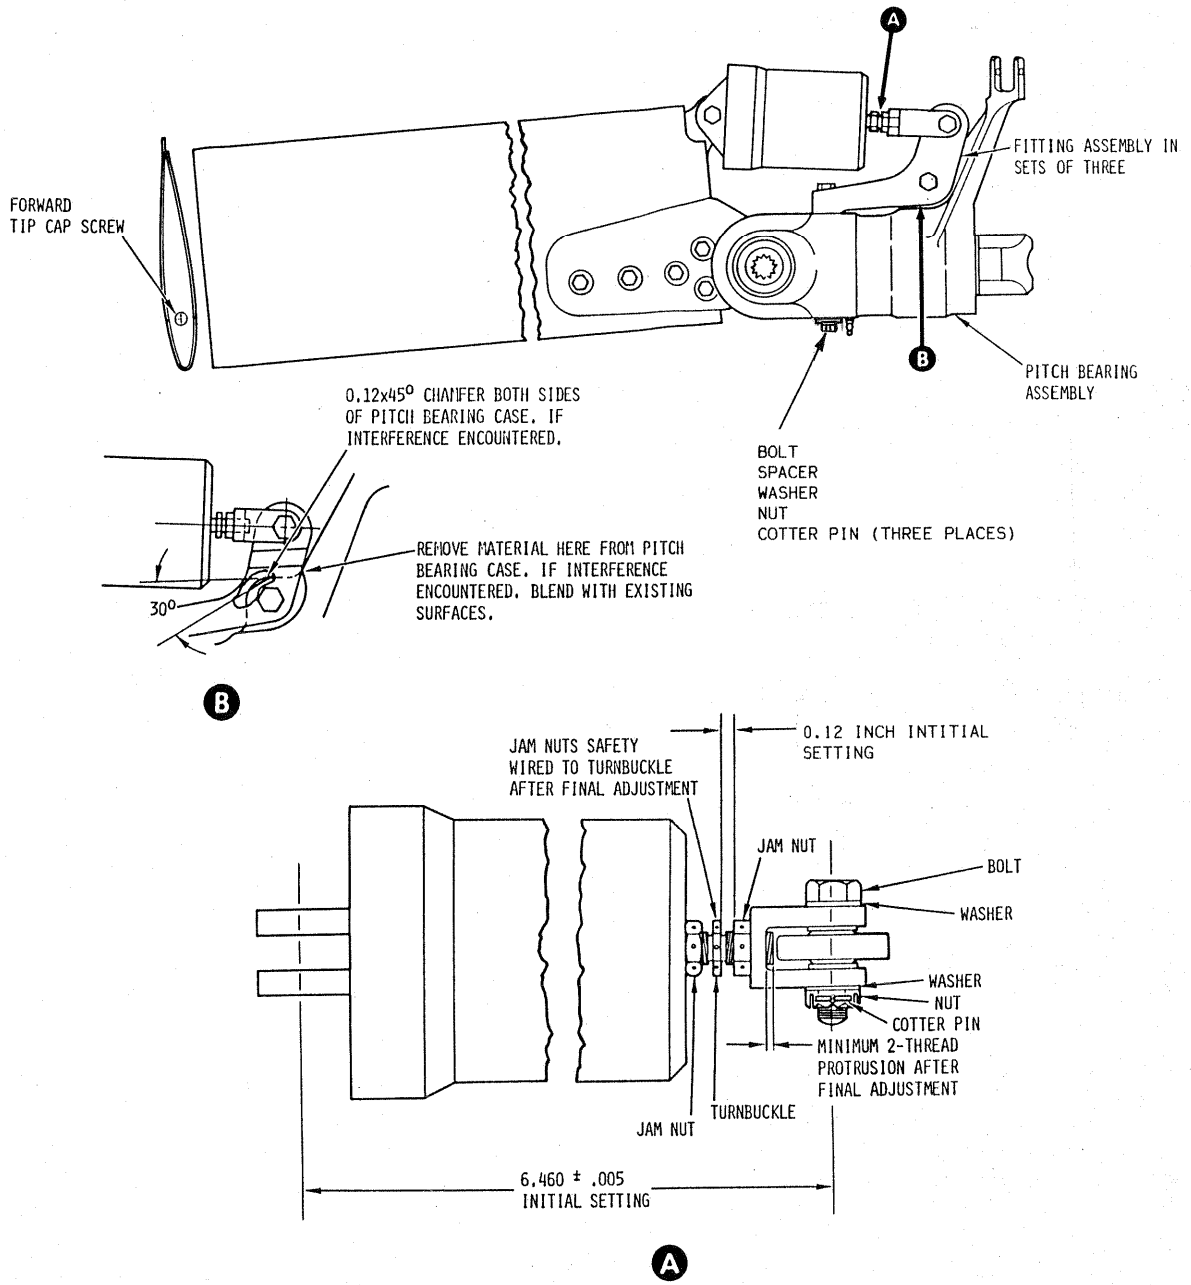

Figure 2. Phasing Main Rotor Blades with Elastomeric Dampers Installed
- d. Adjust 269A1290-1 damper assembly on bench so that a dimension of 6.460 ± 0.005 inches exists between centerline of holes in damper clevis and damper cap. Establish 0.12-inch initial clearance for jam nut as shown in Figure 2. Leave jam nuts fingertight.